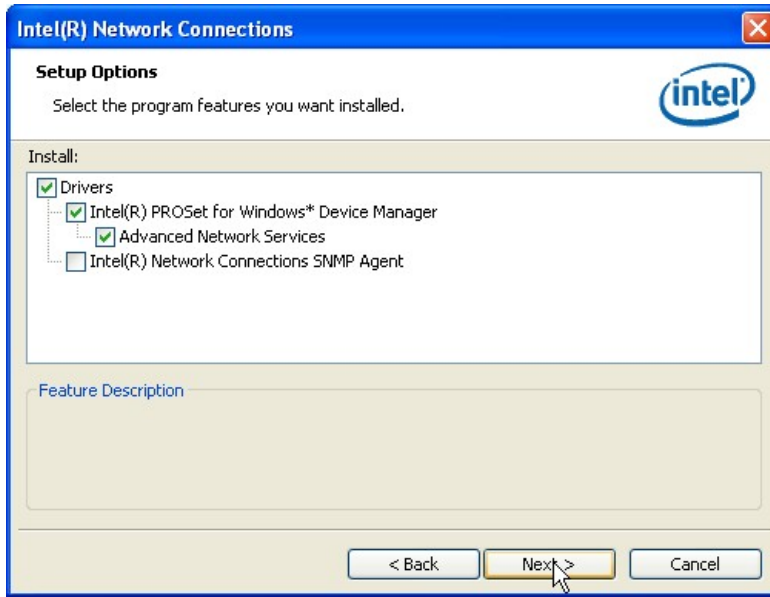

Figure 6-17: LAN Driver Setup Options
Step 11: The **Setup Options** screen in **Figure 6-17** appears.